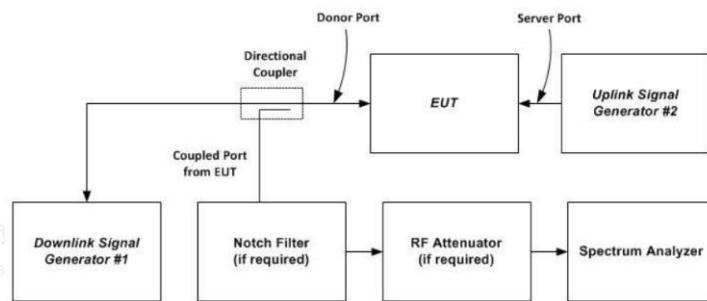

Figure 5 – Variable gain instrumentation test setup
- a) Connect the EUT to the test equipment as shown in Figure 5 with the uplink output (donor) port connected to signal generator #1. Affirm that the coupled path of the RF coupler is connected to the spectrum analyzer.
- k) Measure the maximum channel power and compute maximum gain when varying the signal generator #1 output to a level from -90 dBm to -20 dBm , as measured at the input port (i.e., downlink signal level at the booster donor port node of Figure 5), in 1 dB steps inside the RSSI-dependent region, and 10 dB steps outside the RSSI-dependent region. Report the six values closest to the limit, including at least two points from within the RSSI-dependent region of operation. See gain limit in charts in Appendix D for uplink gain requirements. Additionally, document that the EUT provides equivalent uplink and downlink gain, and when operating in shutoff mode that the uplink and downlink gain is within the transmit power off mode gain limits.
- m) Connect the EUT to the test equipment as shown in Figure 5 with the uplink output (donor) port connected to signal generator #1. Affirm that the coupled path of the RF coupler is connected to the spectrum analyzer.
- w) Measure the maximum channel power and compute maximum gain when varying the signal generator #1 output to a level from -90 dBm to -20 dBm, as measured at the input port (i.e., downlink signal level at the booster donor port node of Figure 5), in 1 dB steps inside the RSSI-dependent region, and 10 dB steps outside the RSSI-dependent region. Report the six values closest to the limit, including at least two points from within the RSSI-dependent region of operation. See gain limit in charts in Appendix D for uplink gain requirements. Additionally, document that the EUT provides equivalent uplink and downlink gain, and when operating in shutoff mode that the uplink and downlink gain is within the transmit power off mode gain limits.